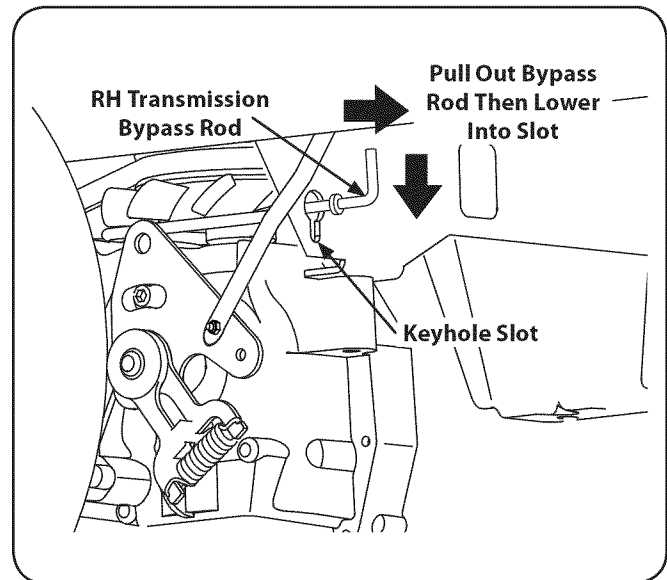

Figure 6-5
1. From just in front of the two rear tires, locate the transmission bypass rods. Refer to Fig. 6-5.